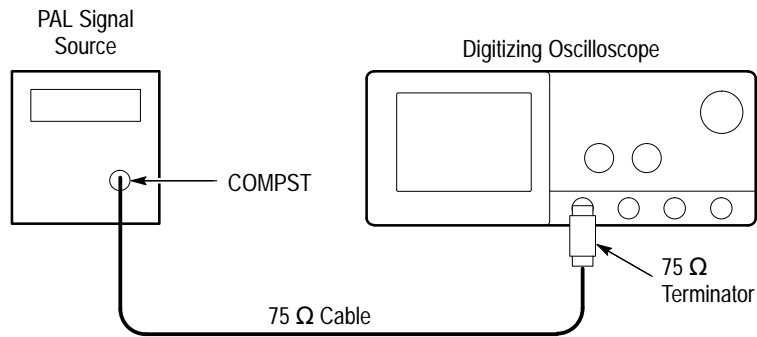

Figure 4–25: Jitter Test Hookup
- a. Set up equipment for Jitter Test. See Figure 4–25.
- b. CHECK that the oscilloscope lights up its front panel **TRIG'D** LED and it displays the waveform on screen. See Figure 4–26.